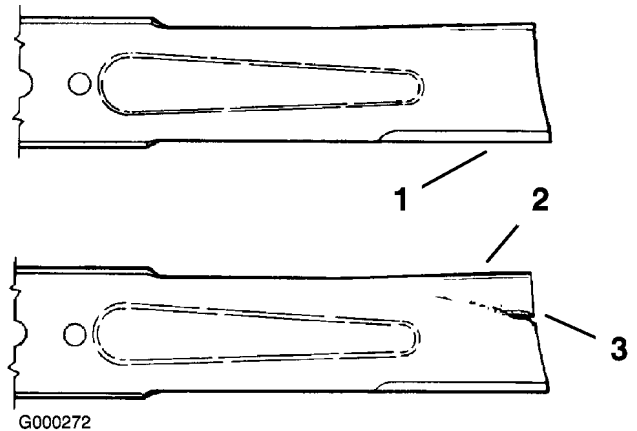

Figure 75
1. Inspect the cutting edges (Figure 75). If the edges are not sharp or have nicks, remove and sharpen the blades. Refer to Sharpening the Blades.
2. Inspect the blades, especially the curved area (Figure 75). If you notice any damage, wear, or a slot forming in this area (Figure 75), immediately install a new blade.